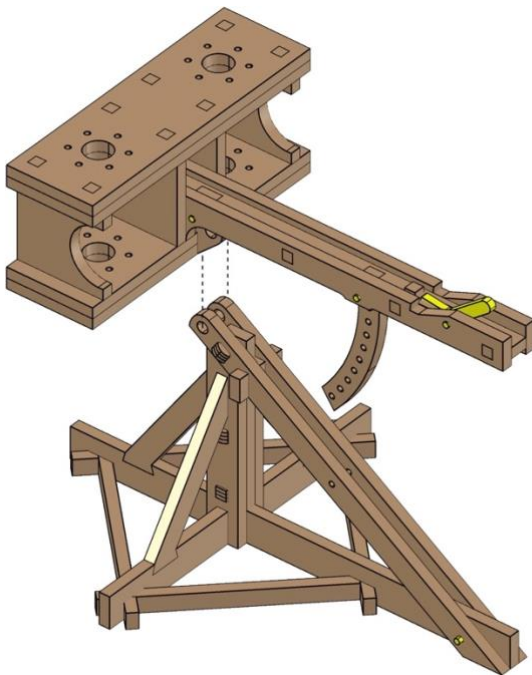

Fig. 59
- Align parts exactly as shown in Fig. 59.